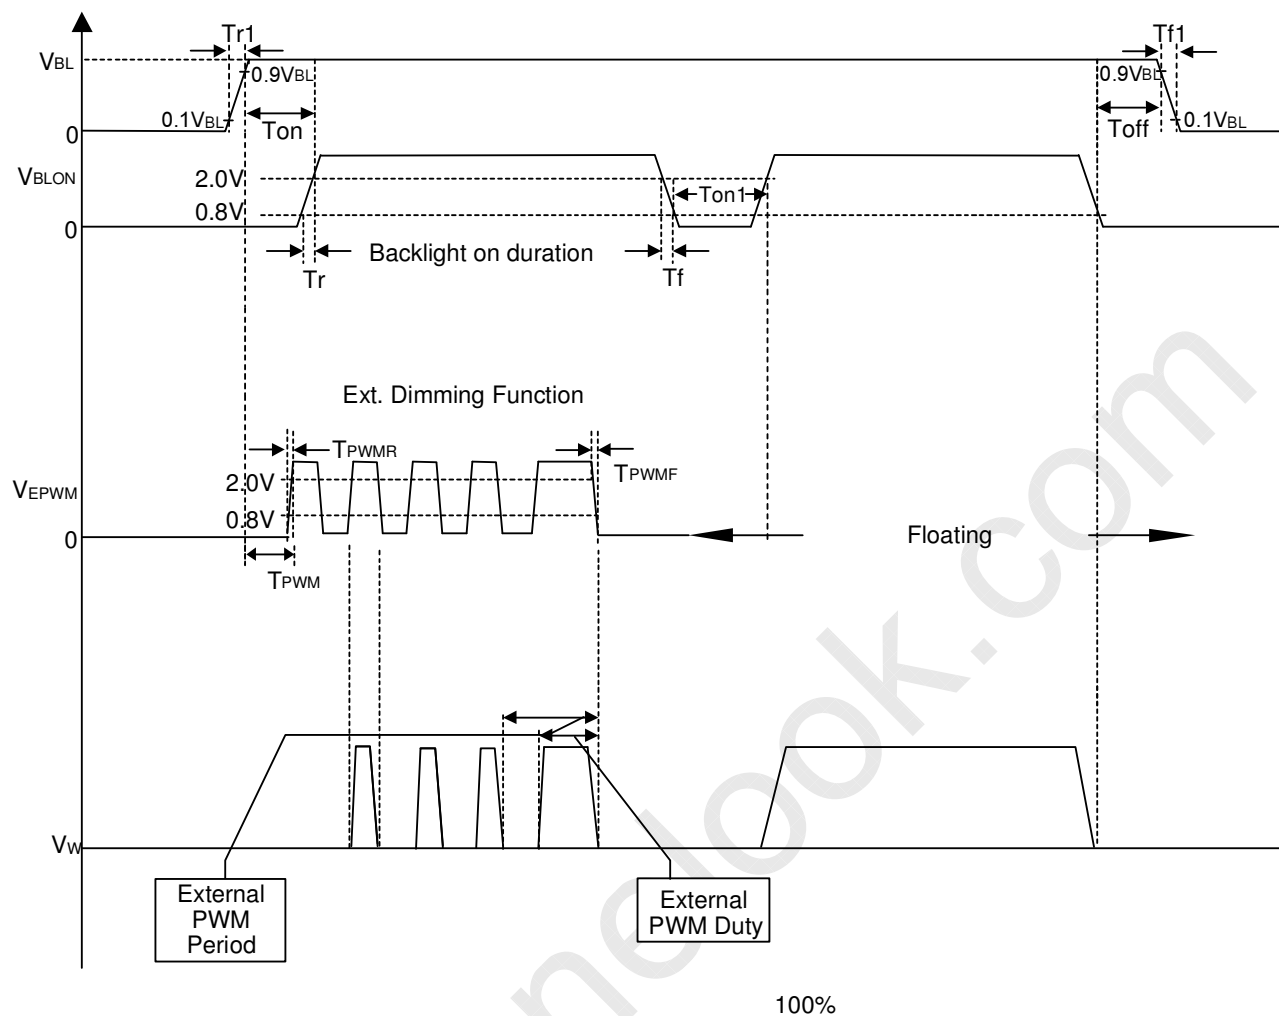

Fig. 1
Note (2) The power sequence and control signal timing are shown in the **Fig.1**. For a certain reason, the converter has a possibility to be damaged with wrong power sequence and control signal timing.